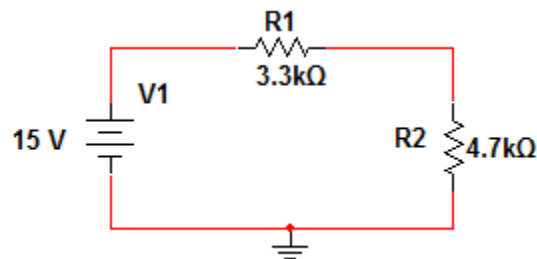

Fig. 7 Exercise Circuit
1. Set up the circuit in Fig. 7. Do not forget to ground your circuit. Use the +15V and AGND terminals on the NI myDAQ to serve as the 15V DC voltage source.
2. Measure the voltage across all the branches, including V1 in Fig. 7 using the procedure described in step II.
3. Measure all branch currents in Fig. 7 using the procedure described in step III.